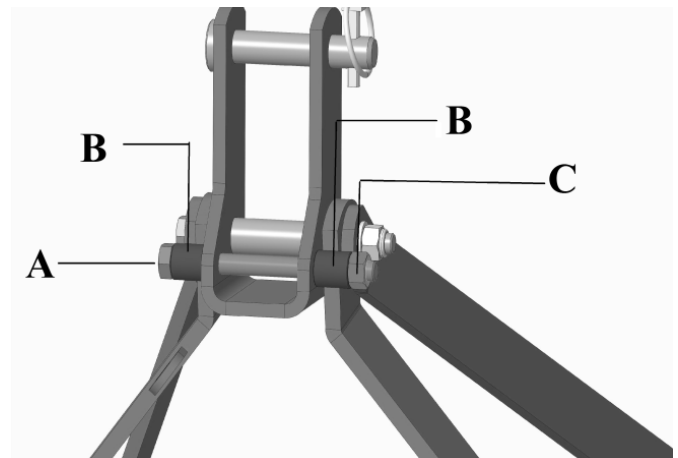

Figure 11
1. Remove the hex bolt [Figure 11, Item A], the two (2) bushings [Item B], and nut [Item C] from the bracket.